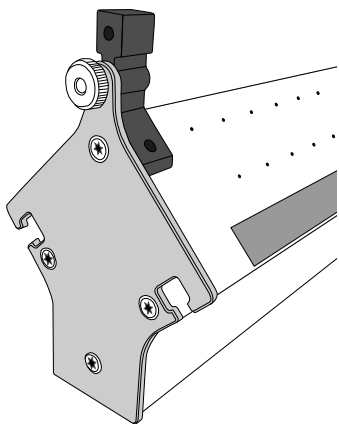

Figure 2. Securing the end stop to the end plate.
10. Secure the end stop in place using one of the finger screws, as shown in Figure 2.